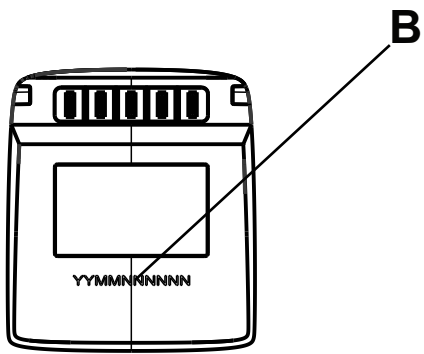
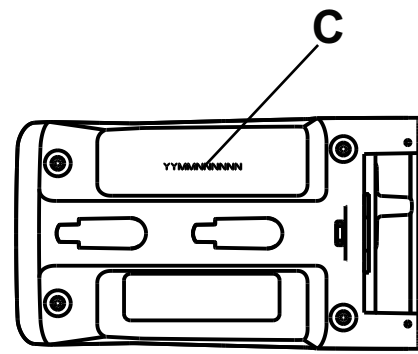

Figure 2 – Alvarium battery serial number location
Figure 3 – Alvarium charger serial number location
See below for the battery (B) and charger (C) serial number locations (Figure 2 and Figure 3).